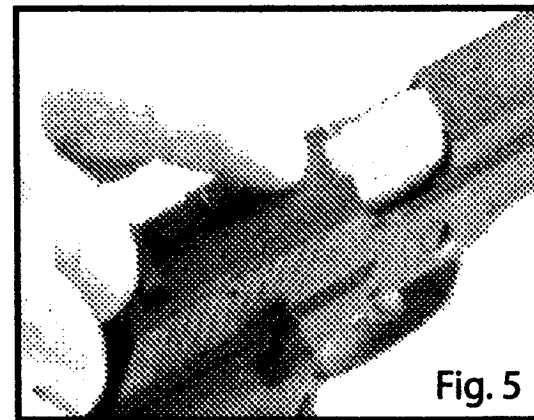

Fig. 5
Fig 5 Loaded chamber indicator is located on the slide, for visual or tactile check. When there is a round or a case in the chamber, the indicator pin is protruding on the upper surface of the slide.
1. To remove magazine, press magazine release with the right or left hand thumb. The magazine will fall out of the pistol (Fig. 5).